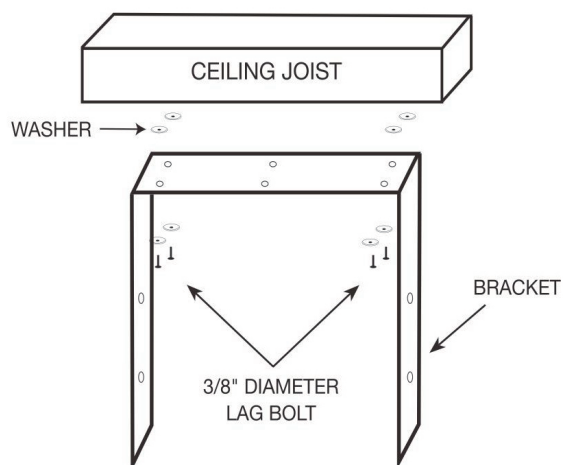

Figure 4: Multi-Screw Mounting, For Fixed Position
BRACKET INSTALLATION FOR EWH9800 Refer to Figure 4.
3. Place the screws and washers as shown in the **Figure 4**.